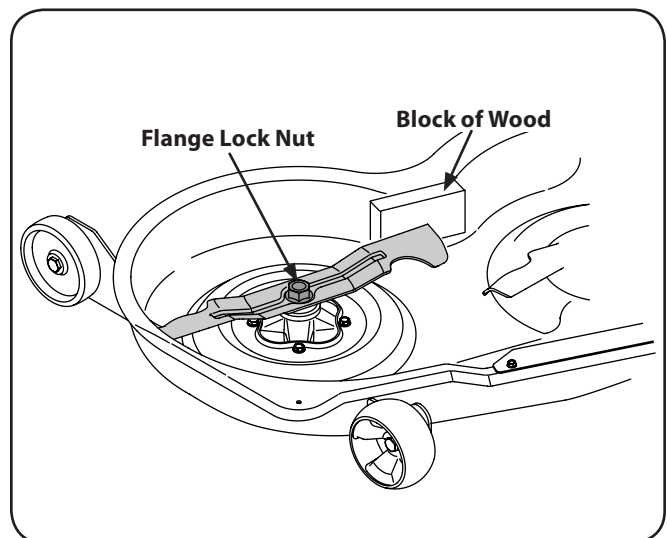

Figure 7-6
2. Place a block of wood between the center deck housing baffle and the cutting blade to act as a stabilizer. See Figure 7-6.
3. Remove the flange lock nut that secures the blade to the spindle assembly. See Figure 7-6.